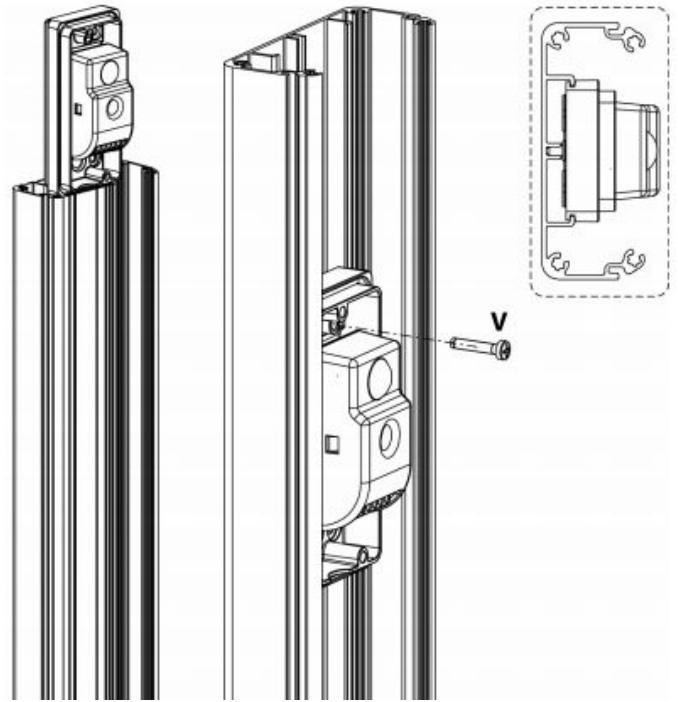

Figure 5.2
3. Position the photocell at the desired height and fix it using the special V screws (Figure 5.2).